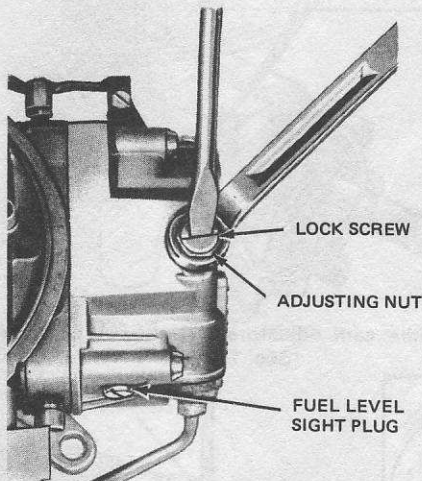

Fig. 3.41 Fuel level float adjustment - wet (Holley 4150C carburetor) (Sec. 17)
- With the engine stopped, loosen the lock screw on top of the fuel bowl just enough to allow turning of the adjusting nut underneath (Fig. 3.41). **CAUTION:** Do not attempt to adjust the fuel level with the sight plug removed and the engine running as the pressure in the line will spray fuel out and present a fire hazard.